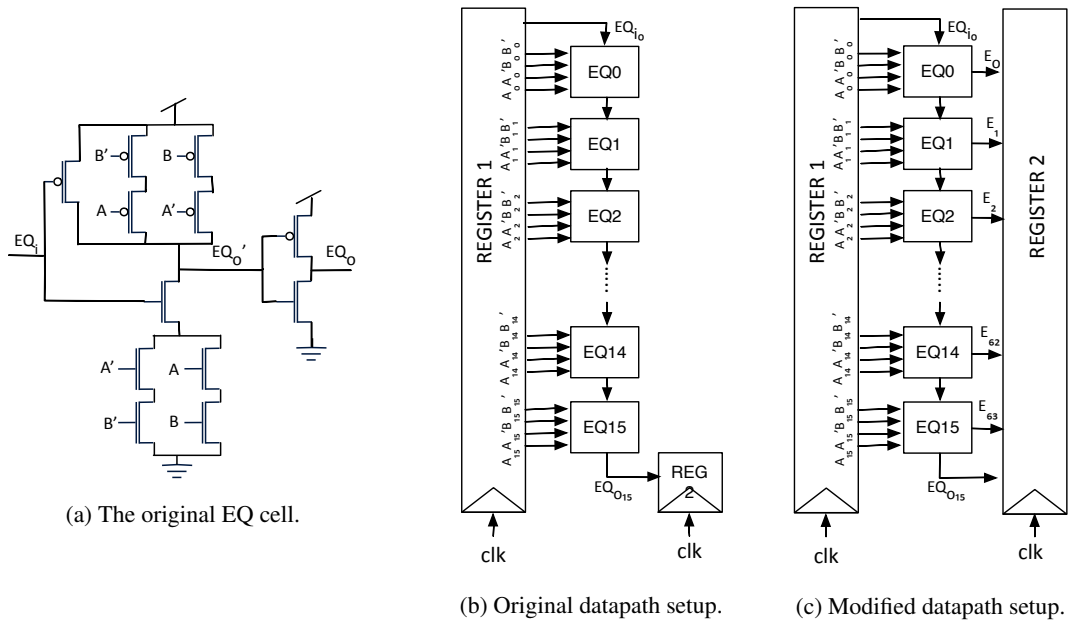
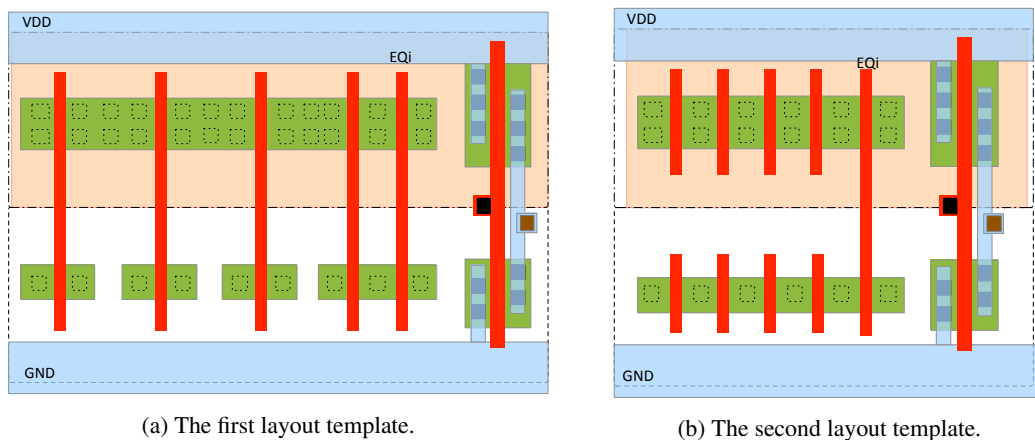

Figure 1: Equal circuit design problem.
Figure 2: Two templates for the layout of the original EQ cell shown in Figure 1(a).
You are the designer for a new 16-bit processor. Your task is to design an circuit for the data path. It should take two 16-bit numbers as its input and produce a 1-bit output that is "1" if the numbers are and "0" if they are not. Figure 1(a) shows the EQ cell that has been previously designed. In Figure 1(b) you see the setup with two registers that are placed before and after your circuit. You can assume that in this process you are designing a p-transistor gives half the current of a nMOS transistor of the same width, and that $p_{inv} = 1$.
- For the EQ gate (that is, the compound gate without the inverter shown in Figure 1(a)) find the logical effort, g , for the EQi input and the parasitic delay, p . (2 p)
- Derive the optimal sizing of the cell shown in Figure 1(a), that is size the EQ gate relative to the inverter. Assume that the smallest transistor sizes in the cell correspond to those of an X1 inverter. With this sizing
- c) You have just been informed that there has been a change of plans: the EQ cell has to also generate an additional output, E, which should be "1" if the A and B cell inputs are equal and "0" otherwise. Refer to Figure 1(c) to see how the modified EQ cell is to be used in the processor datapath. Redesign the EQ cell so that the E output is also generated. Due to size constraints you cannot just add an additional separate gate for E, but have to try to share resources with the existing circuitry. Derive the logic function for E and draw the schematic of the new cell. Also draw a sketch of exactly how your modified cell is to be connected to the registers in position EQ0 and EQ15 as shown in Figure 1(c). (3 p)
- a) Draw the layout for the EQ cell in Figure 1(a) in the template supplied in Figure 2(a), which uses single-
line-of-diffusion layout only for the p-net. The layout should match the schematic in Figure 1(a) exactly. Label the inputs and other nodes clearly. In this task you are not allowed to use the metal-2 layer for routing in the cell. (5 p)
- b) Redo the layout also in the templates supplied in Figure 2(b) which uses single-line-of-diffusion also in the n-net. Note that here the order of the inputs in the p- and n-net will have to differ. In this task you are allowed to change the ordering of the transistors from the one given in the schematic if you want to. If you do so, please redraw the schematics with the ordering that corresponds to your layout. For each of the inputs A, A', B and B' there should be only one connection point within the cell, so you need to use poly or metal to form the connections. Label the inputs and other nodes clearly. In this task you are allowed to use the metal-2 layer in the cell if necessary. (5 p)